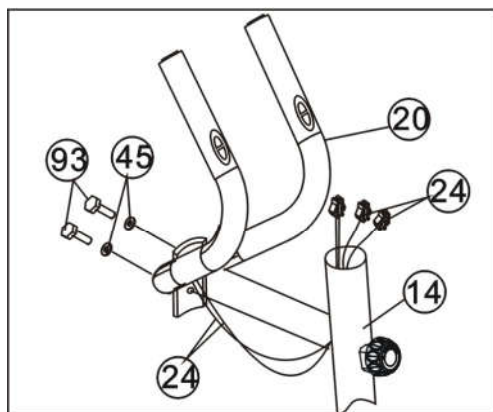

Figure 4
- a. Insert the hand pulse wires (24) from hand pulse bar (20) into the hole on the back of Front upright frame (14) and then pull them out from the upper hole of Front upright frame (14).
- b. Attach the hand pulse bar (20) to the groove of Front upright frame (14) with two pcs of  $\Phi$ 8 arch spacers (45), and M8 x 16 bolts (93). (Refer figure 4)